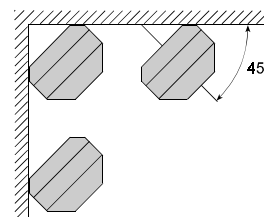

Figure 5. 45° Mounting Alternatives
The preferred mounting location is at the wall-to-ceiling juncture, at 45°. Wall or ceiling mounting is also possible as long as the 45° angle is maintained. See figure 5, Mounting Alternatives.
A. Select the mounting location of the unit so that a person will have to cross its field of view. See installation drawings, fig. 1-4 for the various fields of view and fig. 5, mounting alternatives.